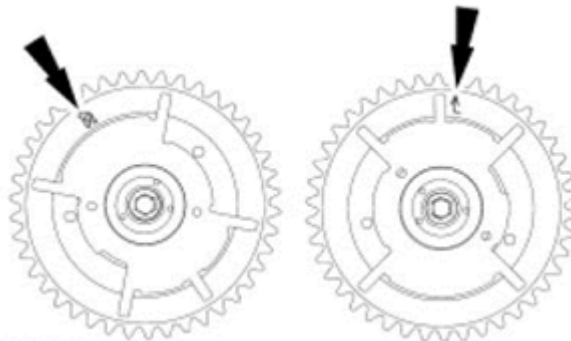

Figure 2 – RH & LH Camshaft Timing Mark Locations
2. Rotate the camshaft sprockets to position the Right Hand (RH) camshaft sprocket timing mark at the 11 o'clock position and the Left Hand (LH) camshaft sprocket timing mark in the 12 o'clock position as shown in Figure 2.